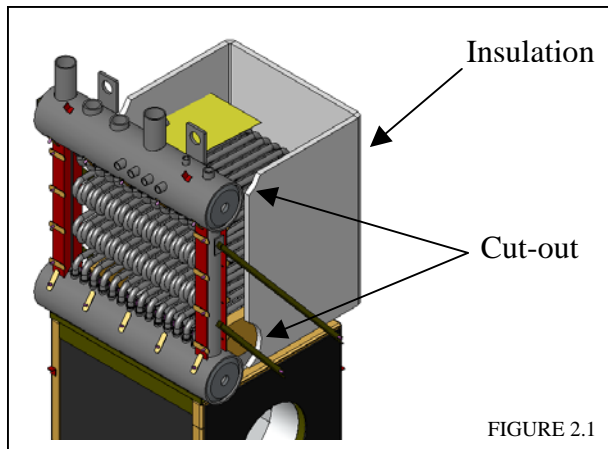

FIGURE 2.1
- 2.2 Wrap water tubes completely with a single piece of 2400°F white ceramic fiber insulation as shown in Fig. 2.1. Cut insulation to snugly fit around upper and lower drum.